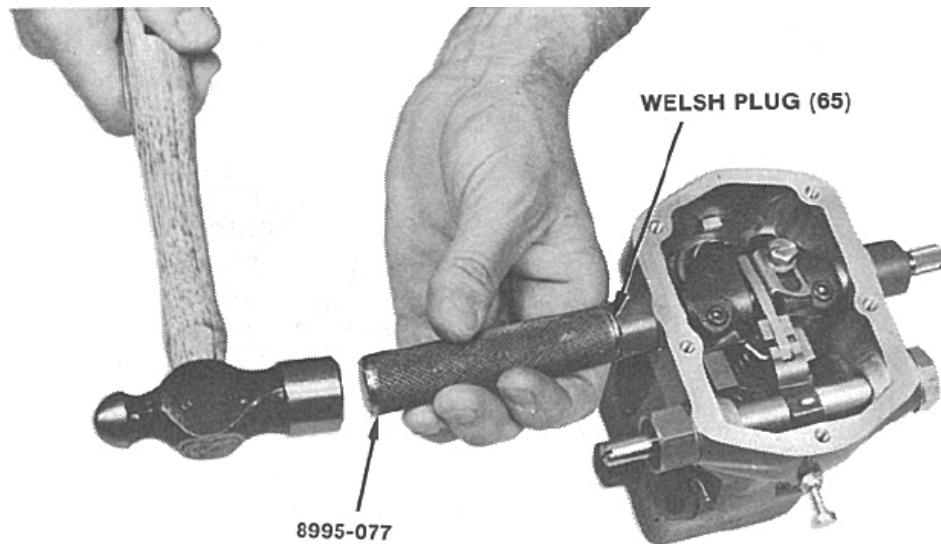

Figure 3-32. Welch Plug Installation
26. Install seals on speed adjusting shaft (52) the same way as on the terminal shaft.
27. Install Welch plug (65) on the side with stub terminal shaft (57). On governors with terminal shaft extending from both sides, the Welch plug is omitted. See Figure 3-32.